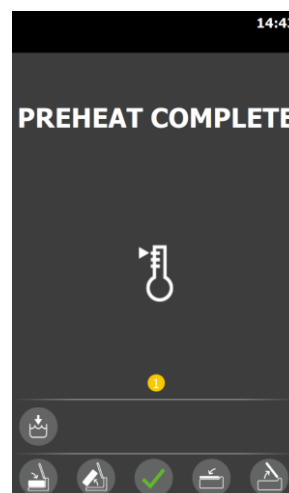

Figure 24
- If the Preheat is completed a screen stating PREHEAT COMPLETE is displayed and the Red STOP button is replaced with a green **CHECK MARK** allowing the users to start the timed cooking stage (see **Figure 24**)